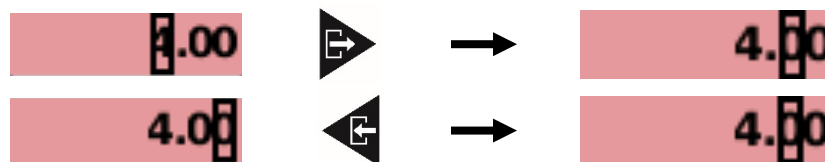

Figure 4.17
- Use the “Left” and “Right” buttons to select a different digit as shown in **FIGURE 4.17**: